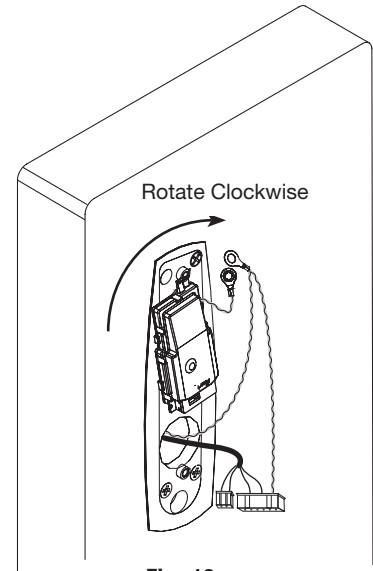

Fig. 10a
- a. Press piece against door while turning clockwise (Fig. 10a).